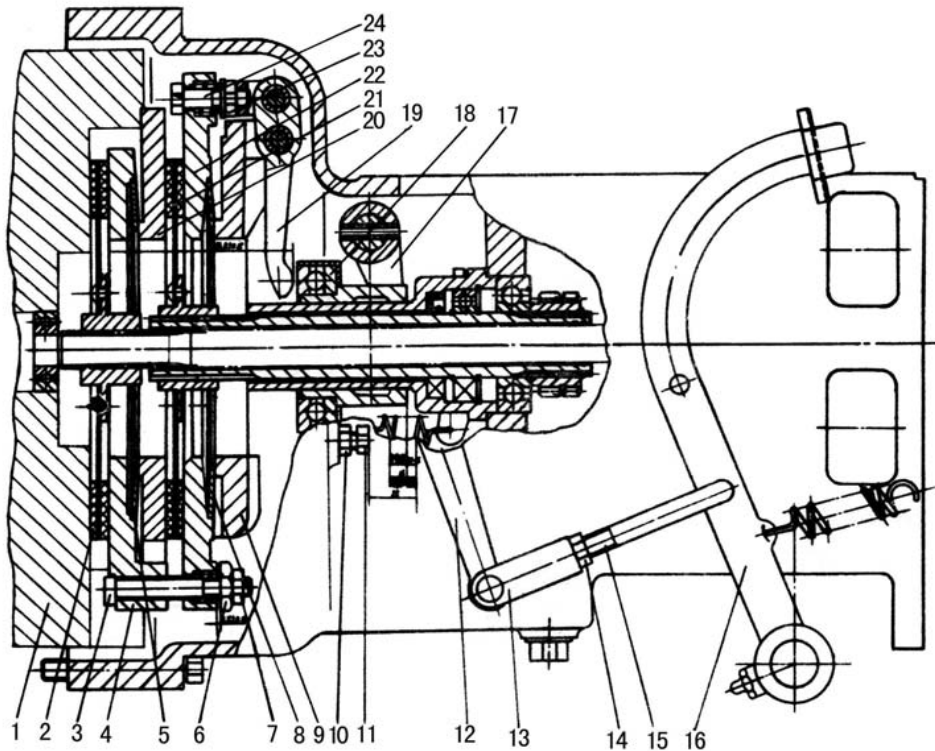

Fig.4-1 Dual stage clutch
Fig. 4-1 is connection-controlled dual stage clutch. It mainly consists of three parts: driving part, driven part and controlling part. Driving part rotates with the engine flywheel; only when the clutch engages can the driven part rotate with the engine.
When adjusting the free travel of the clutch pedal (Fig. 4-1), firstly adjust the length of clutch push rod (15) to ensure that the clearance between end faces of three release levers and release bearing is  $2.5 \pm 0.5\text{mm}$  and the idle travel of release rock arm is 3.5-5mm; after adjustment tighten it with nut M10.